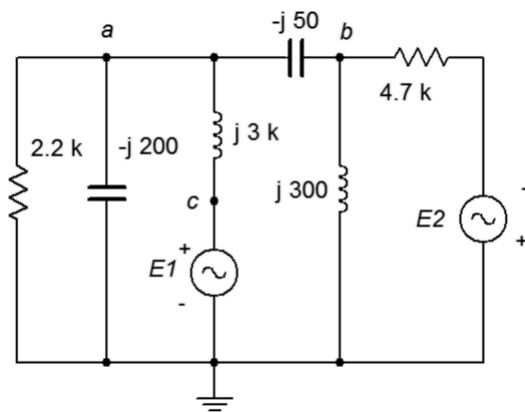

Figure 5.4
7. Use Superposition to find the current through the  $2.2\text{ k}\Omega$  resistor for the circuit of Figure 5.4.  $E1 = 1\angle 0^\circ$  and  $E2 = 10\angle 90^\circ$ .
8. Use Superposition to find  $v_{ab}$  for In the circuit of Figure 5.4.  $E1 = 1\angle 0^\circ$  and  $E2 = 2\angle 45^\circ$ .